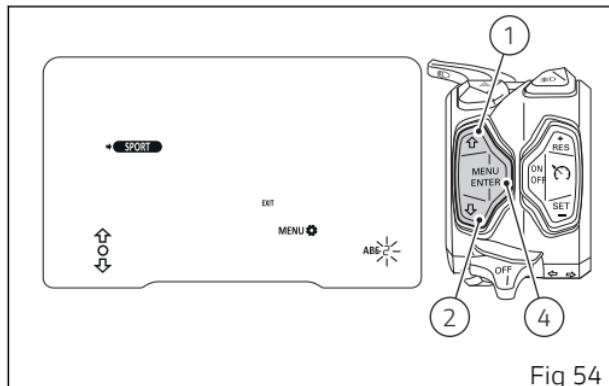

Fig 54
When entering the function, the ABS value starts flashing (Fig 54). Use buttons (1) and (2) to set required value, which can be 1 to 3 or "OFF", i.e. ABS disabled. To confirm, press the button (4).